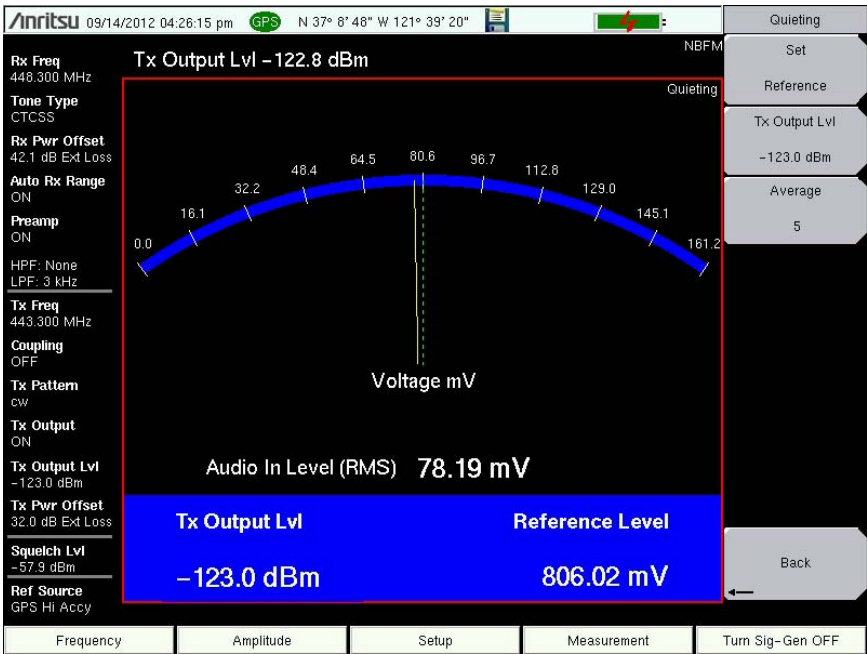

Figure 2-8. 20 dB Quieting After Increasing the LMR Master Sig-Gen Tx Output
7. Press the **Set Reference** key and note the **Reference Level** voltage displayed on the right side of the blue bar as shown in Figure 2-8 on page 2-10. Setting the reference will automatically adjust the voltage scale such that the voltage displayed in the middle of the meter is 10 % (–20 dB) of the reference audio voltage.
9. Increase the LMR Master Tx Output Lvl until the needle on the voltage meter is in the center of the display (Figure 2-8). The Audio In voltage level has decreased to 10 % of the reference level. The power level displayed on the left side of the blue bar is the 20 dB quieting antenna input power level.